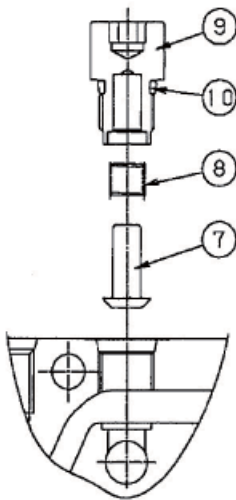

Figure 4. Check valve
(2) Check valve disassembly procedures
■ Standard type check valve (see figure 4)
- ① Hold the control valve body at workbench or hold it by two or more people.
- ② Loosen and remove check valve plug (⑨) at the center of the control valve upper surface with 8 mm hexagonal wrench.
- ③ From the hole where check valve plug has been removed, remove check valve spring (⑧) and check valve (⑦) with tweezers or magnet.
- The numbers in figure 4 are the same as those in the P1, P2 inlet & straight travel block in the specifications and drawings.